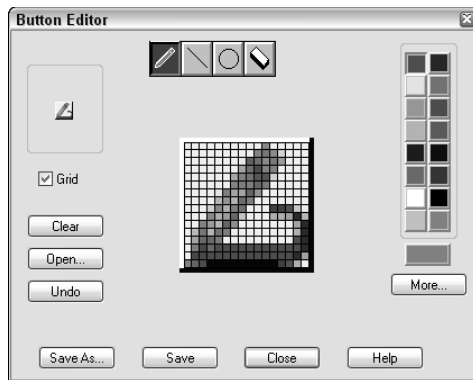

Figure 29-10: The new button.
12. You want to change the button so that it looks as if a zero-width polyline is being changed to a wider polyline because that's what the macro does. Click the red color. Choose the Pencil tool (by default, it is already chosen). Click Grid to help you work. Click (or drag) the point of the Pencil tool in each box, using Figure 29-10 as a guide. (Figure 29-10 shows the button in black and white.) When you're done, choose Save and then Close.